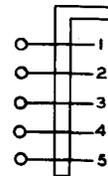

Fig. 6—234B Plug
2.10 234B: The 234B plug (Fig. 6) is designed to be used as a service observing plug for totally solderless wrap 150- and 183-type laminated terminal strips.